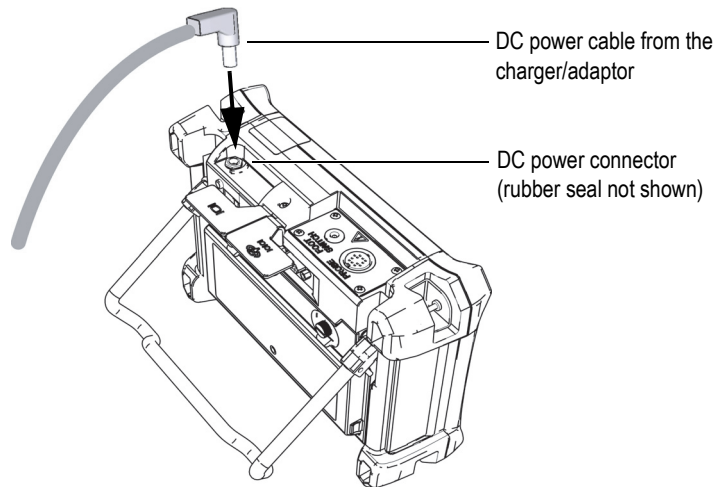

Figure 1-9 Connecting the DC power plug
3. Connect the DC output power cable from the charger/adaptor to the DC power connector on top of the Magna-Mike 8600 (see Figure 1-9 on page 26).